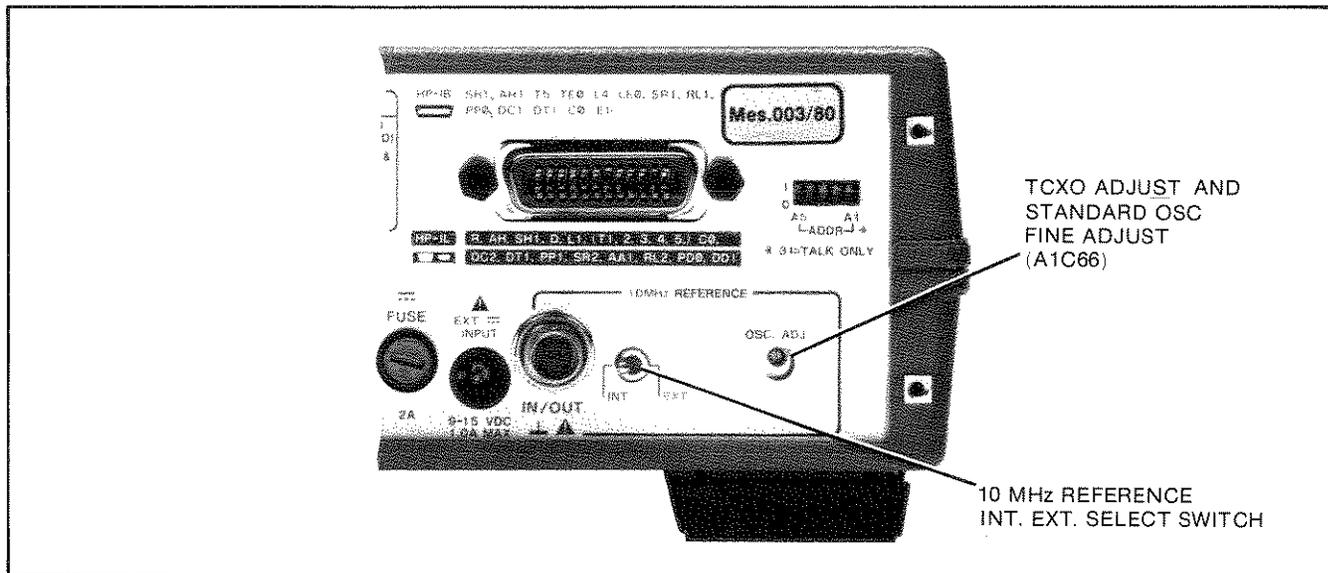

Figure 5-7. TCXO and Standard Oscillator Adjustment
c. Select INT with the 10 MHz REFERENCE INT EXT select switch on the rear of the instrument (see Figure 5-7).
d. Adjust the frequency for minimum sideways movement of the 10 MHz signal with the OSC ADJ located on the rear of the instrument (see Figure 5-7). For the Standard Oscillator, the same rear panel location is used to adjust A1C66, the standard oscillator fine adjustment capacitor. If A1C66 does not have enough range to minimize movement, adjust